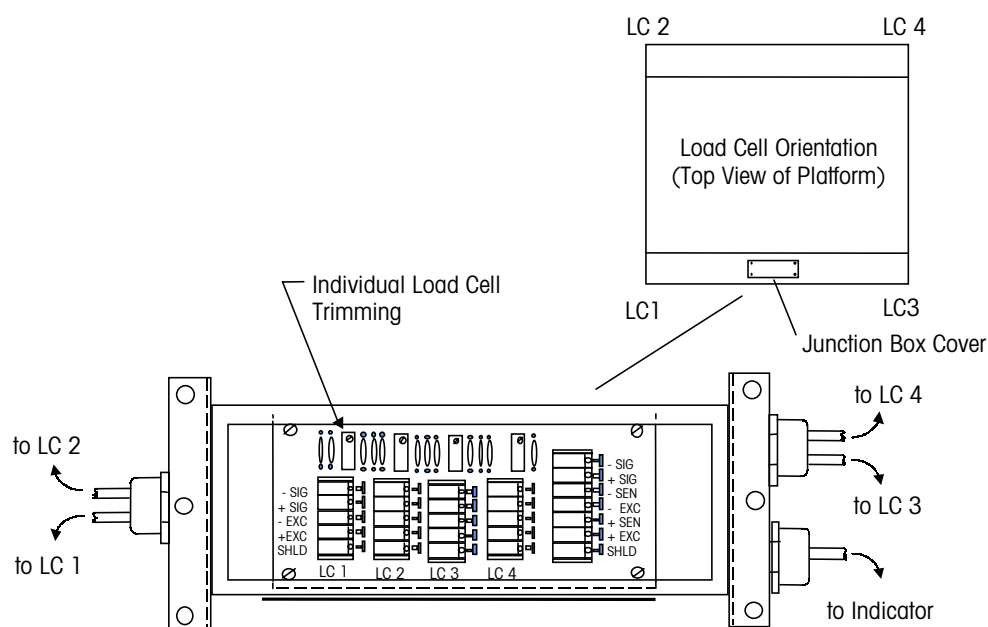

Figure 3-3: 2888 Analog Junction Box Detail
To install a 2888 DECKMATE portable scale, simply bolt the indicator mounting column to the scale frame, attach the indicator to the mounting bracket at the top of the column, and connect the indicator cable to the scale's junction box (see Figure 3-3 and Table 3-1 for wiring information).
2. Thread the instrument cable through the connector at the end of the junction box. Wire the cable to the seven-position terminal strip (see Figure 3-3 and Table 3-1).